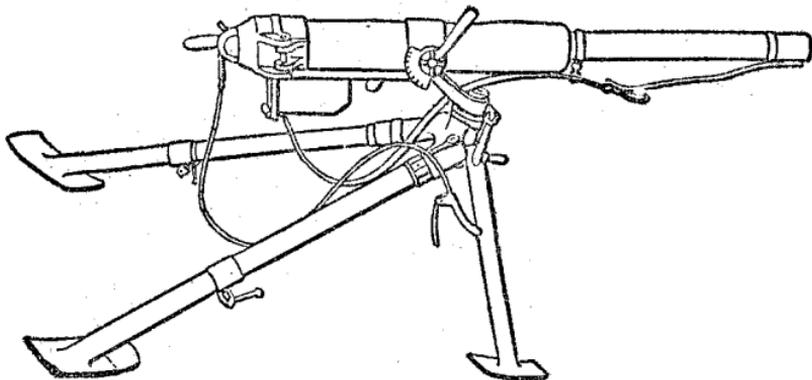

FIG. 147.—Brandt howitzer, type 1915.
1. *Pneumatic 60 millimeter (2.362 inches) howitzer (Brandt), model 1915* (fig. 147).—The compressed-air howitzer is composed of a *tube of 60 millimeters (2.362 inches) interior diameter, the annular reservoir, and the movable breechblock.*